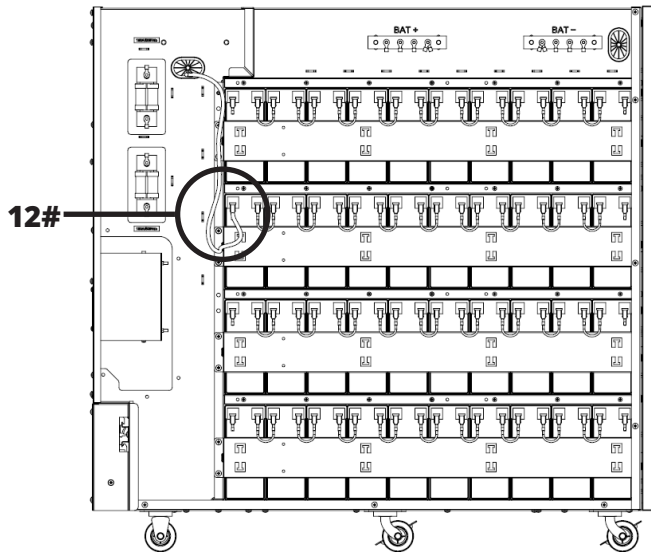

Figure 5-19A
27. Connect group 3 battery 10- to N battery bus bar (BAT N) (Figure 5-19A).